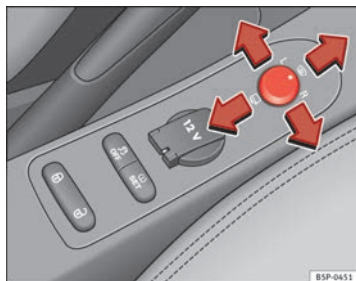

Fig. 89 Controls of exterior mirrors
1. Turn knob ⇒ Fig. 89 to position **L (left exterior mirror)**.
- Turn the control ⇒ Fig. 89 to position  to fold in the exterior mirrors. You should always fold in the exterior mirrors if you are driving through an automatic car wash. This will help prevent damage.